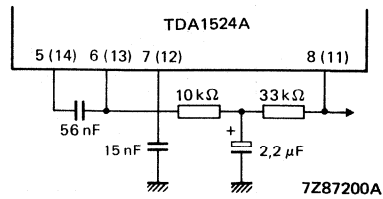

Fig. 3 D.C. feedback with filter network for improved signal handling.
D.C. output levels (pins 8 and 11) under all control voltage conditions with d.c. feedback (Fig. 3)